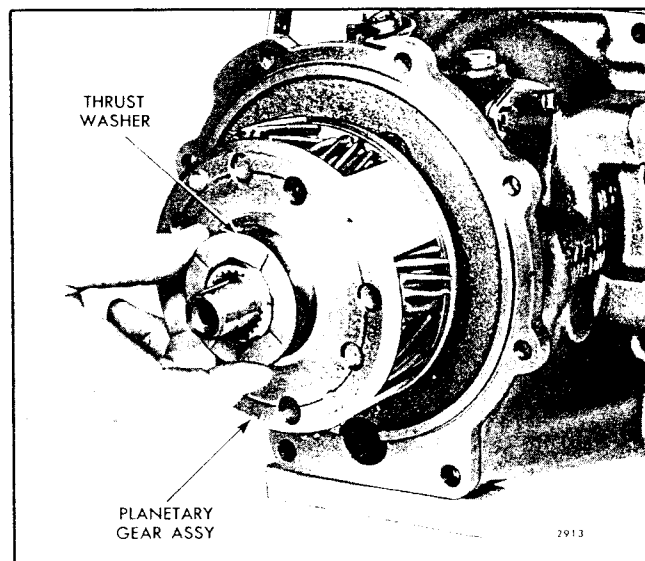

Fig. 107 - Installing Thrust Washer on Hub of Planetary Gear Assembly (2.1:1 Ratio)
- d. Lubricate the second planetary gear thrust washer with engine oil. Then place it over the input shaft and hub of the planetary gear and against the rear face of the planetary gear assembly as shown in Fig. 107.